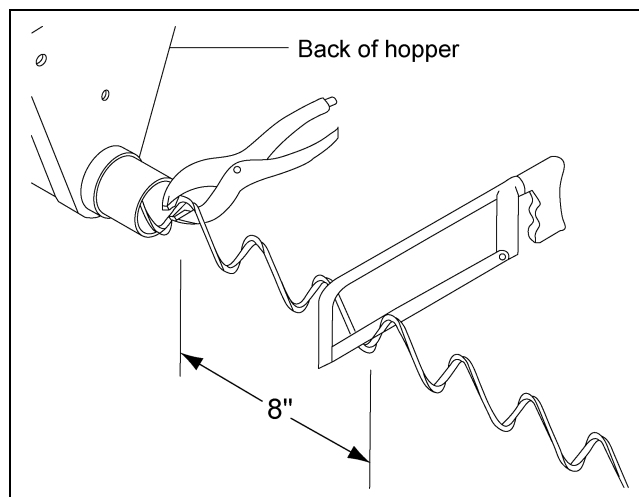

Figure 7CO
19. The auger may be lengthened by brazing two (2) sections of auger together. (See Figure 7CP.)